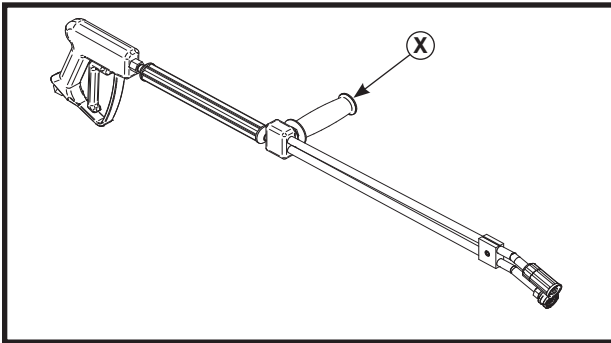

Figure 17
1. To inject soap, unscrew the dual lance handle (X on figure 17).
5. Once the soap application is finished. Screw the dual lance handle (X on figure 17). Soap will flow out for 30 seconds and the stop.